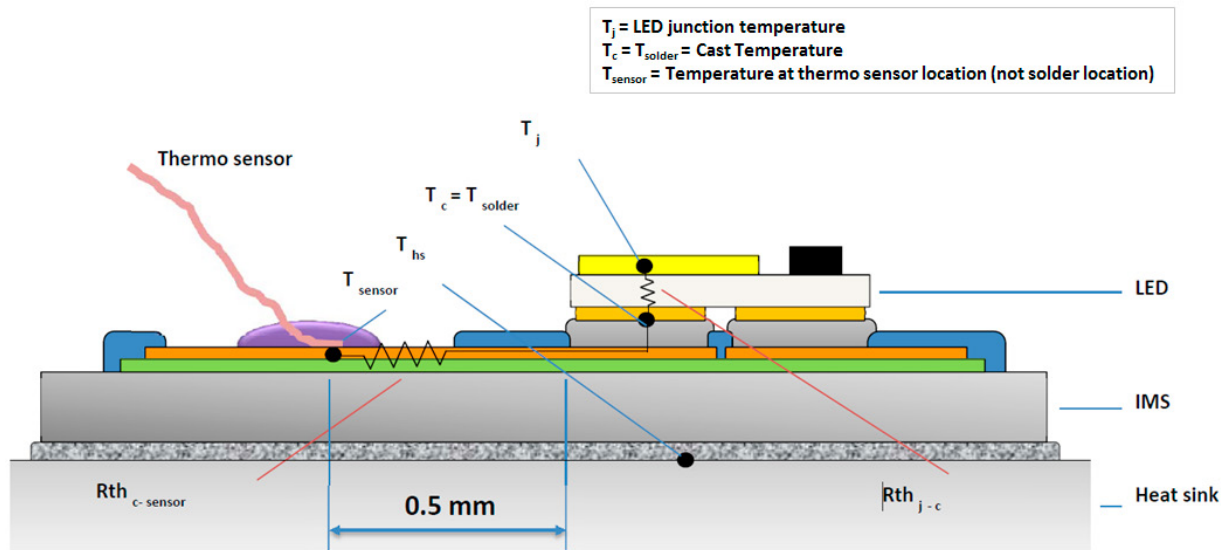

Figure 1. LUXEON F case temperature location on sample board.
LUXEON F is tested and binned at 85°C DC Case Temperature, T_c . T_c is defined in Figure 1 (refer to LUXEON F Application Brief AB108 for additional details). Additional information regarding hot binning is available from your Lumileds Sales representative.
3. Case Temperature is defined in Figure 1; DC is defined as Direct Current.
4. Case temperature is defined in Figure 1; DC is defined as direct current.